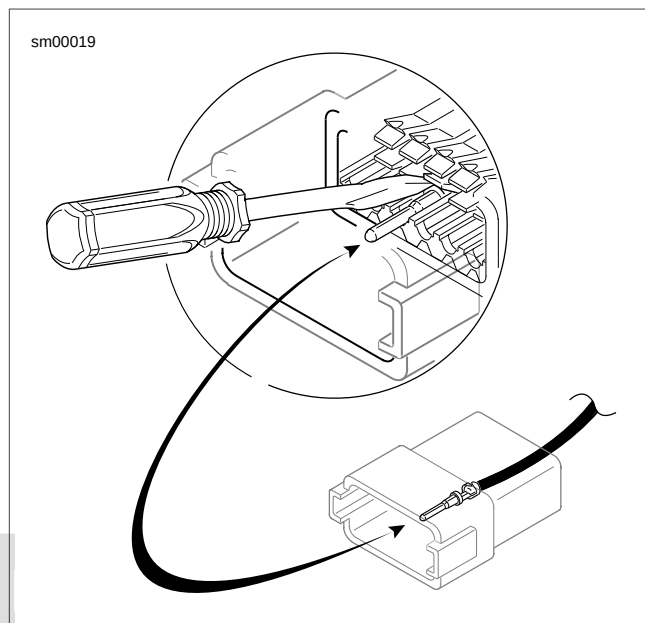

Figure A-30. Deutsch DT Sealed Connector: Depress Terminal Latch and Back Out Pin
2. See Figure A-30. Use a pick or small screwdriver to Press terminal latches inside socket housing and back out sockets through holes in rear wire seal.